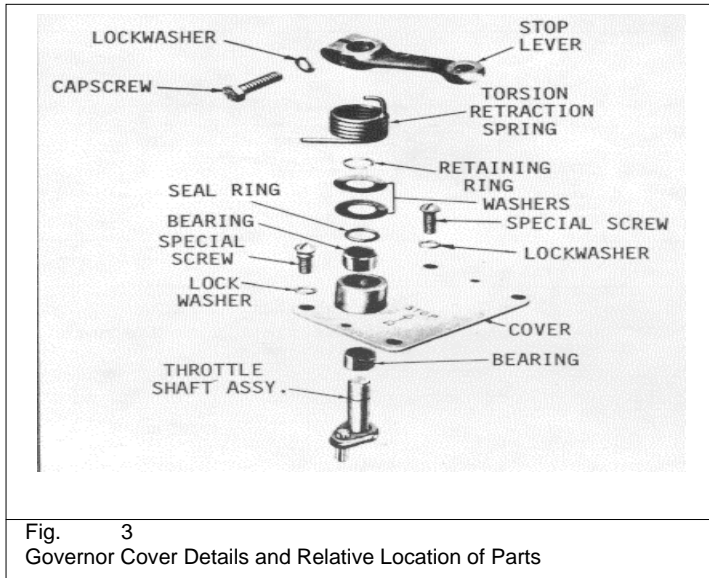

Fig. 3 Governor Cover Details and Relative Location of Parts
- (1) Disassemble the governor cover (Fig. 3).